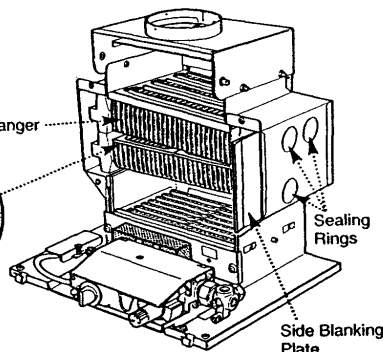

Fig. 11
3. Lift the heat exchanger from the appliance and remove the side blanking plate (Fig. 11).
4. Transfer the 3 sealing rings from the holes in the left hand side of the boiler to those in the right (Fig. 11).